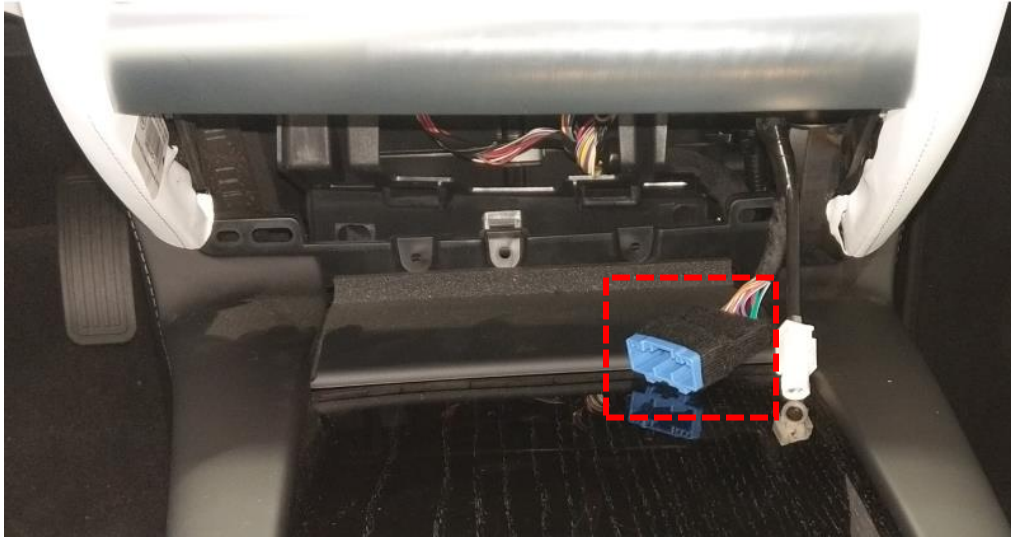

Figure 4. Moving the vehicle communication harness into position
4. Locate the rectangular vehicle communication harness under the touchscreen, gently pull it toward you (Figure 4).